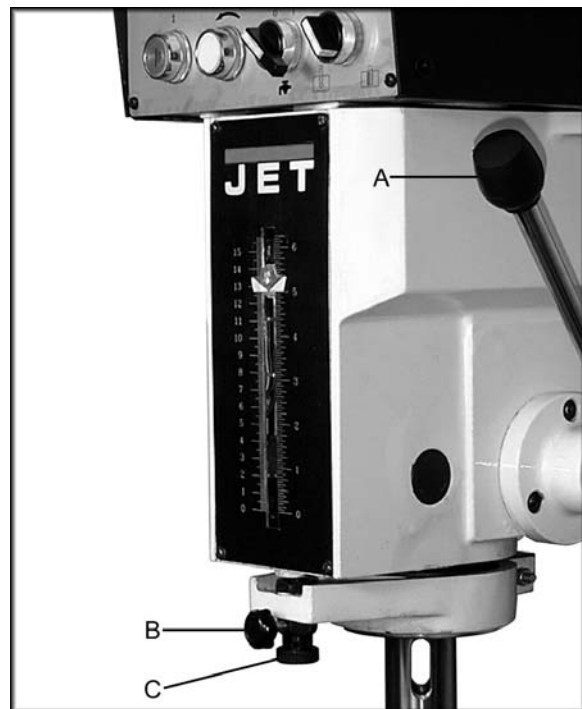

Figure 10
Place the drill/tap switch (7, Fig. 10) in the drill mode. Adjust the zero reading on the scale as follows:
1. Lower the quill to the bottom of its stroke by turning the handle (A, Fig. 10) counter-clockwise until it stops, and hold in that position.
2. To set the zero, loosen lock knob (B, Fig. 10). Turn the knurled knob (C, Fig. 10) until the pointer reads zero.
3. To set the depth stop, turn the knurled knob (C, Fig. 10) to the desired setting. Tighten lock knob (B, Fig. 10). The quill will now advance to this setting.